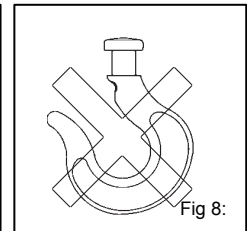

Fig 8:
- **Do not** remove the safety latch from the load hook (Fig. 8).